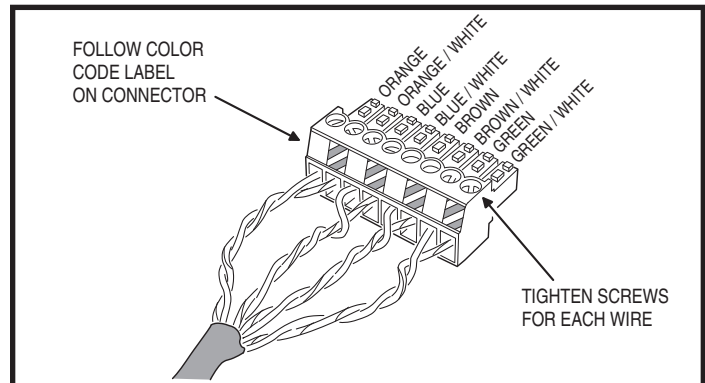

Figure 9. Completed Screw-down Connector Assembly
3. Observing the color code label on the connector, insert a wire pair (solid color wire and wire with the same color stripe) completely into the connector terminal holes (see Figure 9). **TO PREVENT SHORTS, BE SURE THE WIRES ARE COMPLETELY INSERTED.**